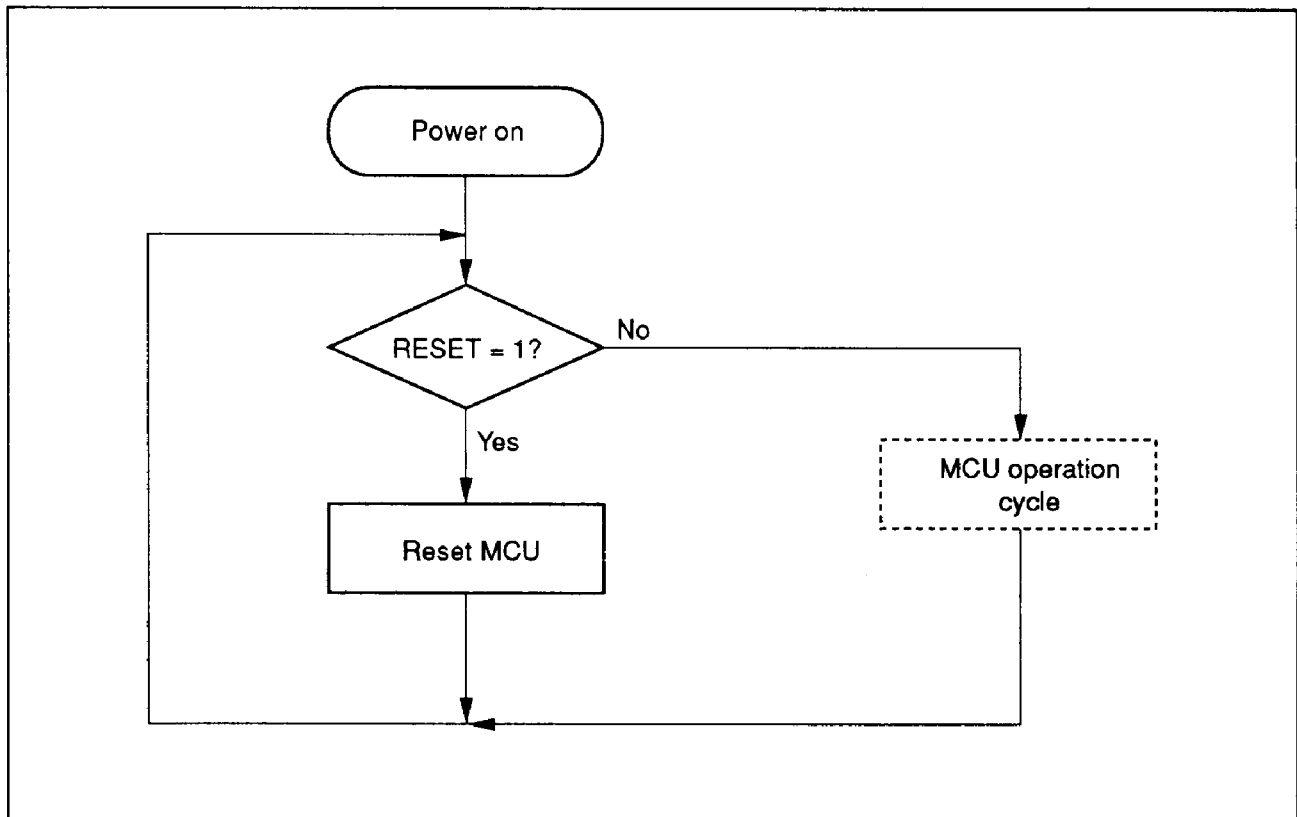

Figure 16 MCU Operation Flowchart (Power On)
**MCU Operation Sequence:** The MCU operates in the sequence shown in figures 16 to 18. It is reset by a RESET input, regardless of its state.